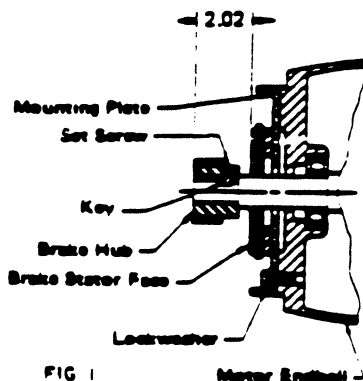

FIG 1
Position brake lead hole (915) on motor shaft (see Fig. 1 for installation location). Tighten set screws.